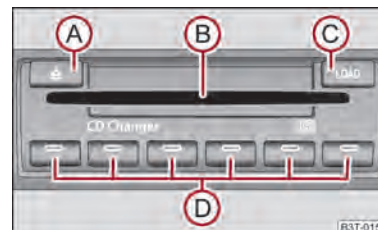

Fig. 136 The CD changer
- Touch the button **(C)** ⇒ **fig. 136** and guide the CD (compact disc) into the CD-case **(B)**. The CD is automatically loaded onto the lowest free position in the CD changer. The LED in the corresponding button **(D)** stops flashing.